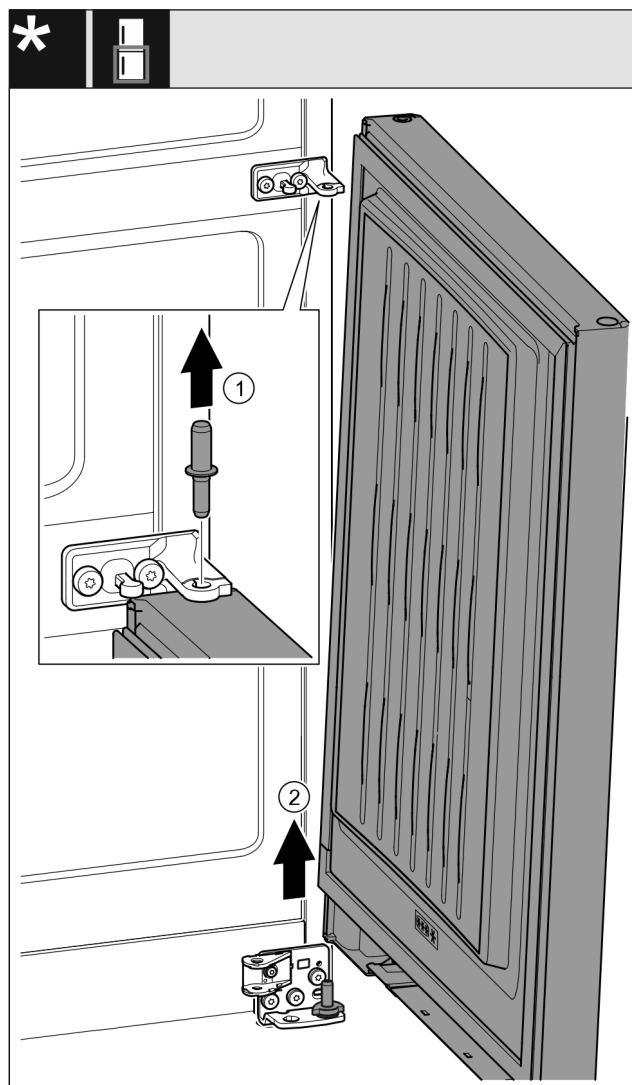

Fig. 25 *
- Pull out the pin Fig. 25 (1) upward.*
- Swivel out the door Fig. 25 (2), pull it upward, and set it aside.*